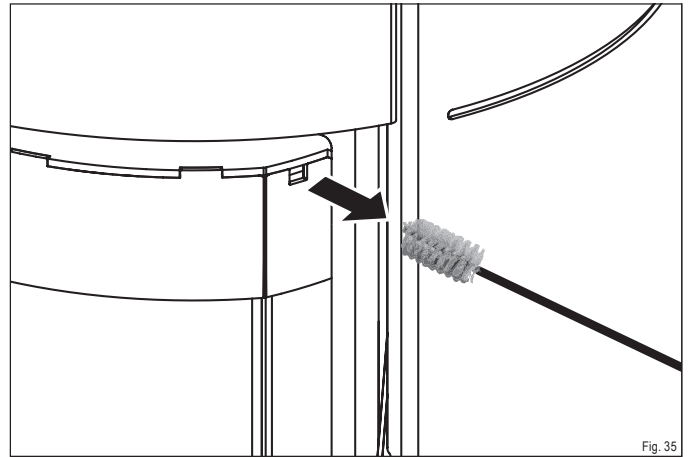

Fig. 35
- ▶ Remove the brush from the clean-out port (Fig. 35).